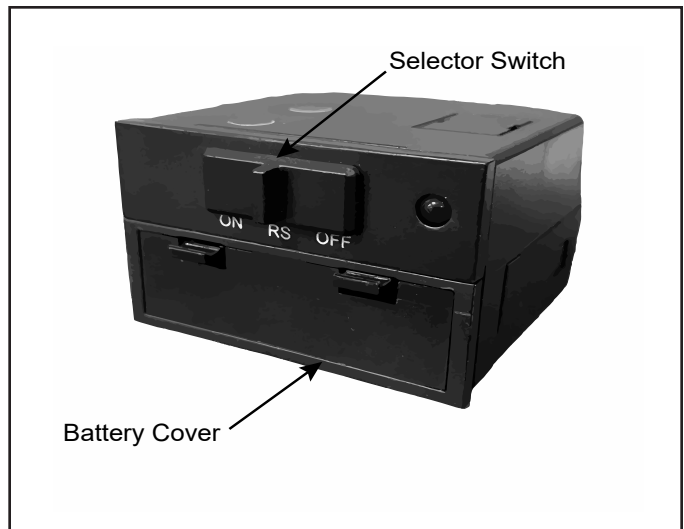

Figure 7.2 Remote Control Receiver
- The Duzy series vented log set comes standard with a battery powered Remote Control with built in ON/OFF switch. See Figure 7.2.